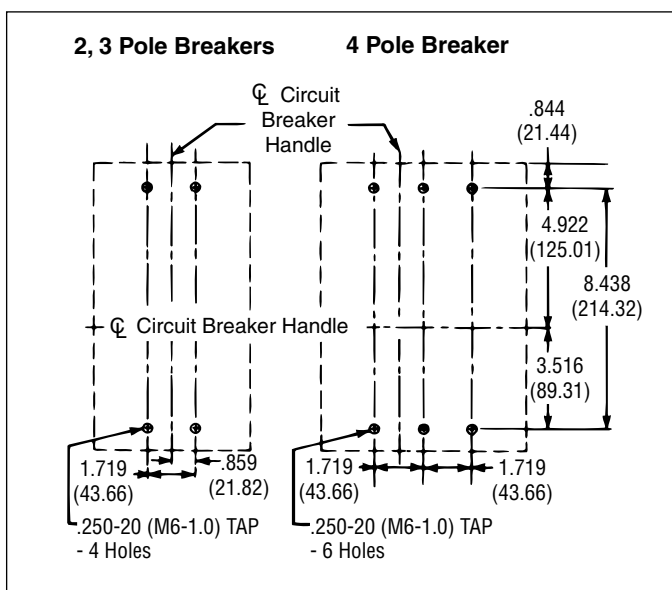

Figure 2-5 Circuit Breaker Mounting Bolt Drilling Plans
- a. For individual surface mounting, drill mounting panel using the drilling plan shown in Figure 2-5. For panel-board mounting, only load end support mounting